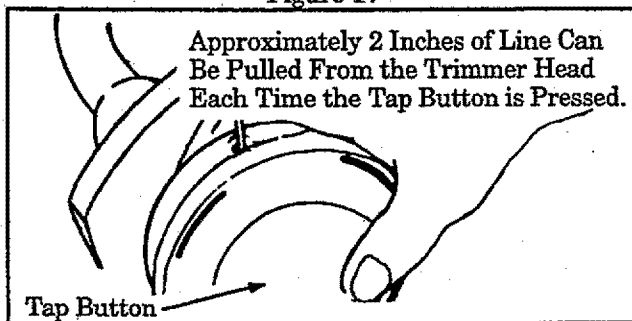

Figure 18
- i. Obtain the correct line length (4-6 inches) by pressing the tap button (Figure 18) and pulling on the line again.
NOTE: Each time the tap button is pressed, approximately 2 inches of line can be pulled from the trimmer head. Figure 18.